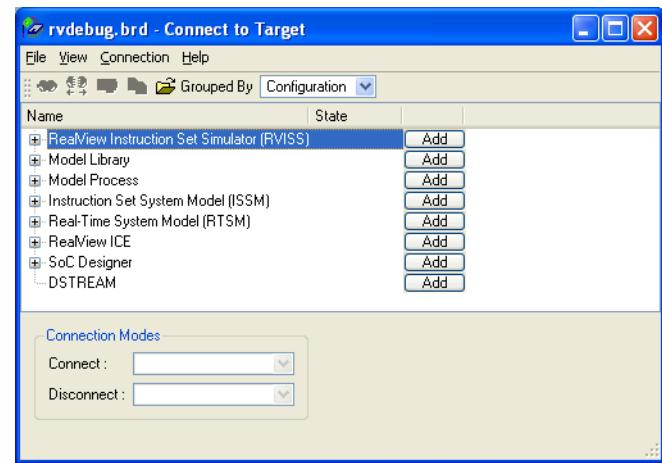

Figure 3-10 Debug interfaces in the Connect to Target window
1. Select **Connect to Target...** from the **Target** menu to display the Connect to Target window. Figure 3-10 shows an example:
1. In RealView Debugger, select **Connect to Target...** from the **Target** menu to display the Connect to Target window. Figure 3-10 on page 3-27 shows an example.
2. In RealView Debugger, select **Connect to Target...** from the **Target** menu to display the Connect to Target window. Figure 3-10 on page 3-27 shows an example.
3. In RealView Debugger, select **Connect to Target...** from the **Target** menu to display the Connect to Target window. Figure 3-10 on page 3-27 shows an example.